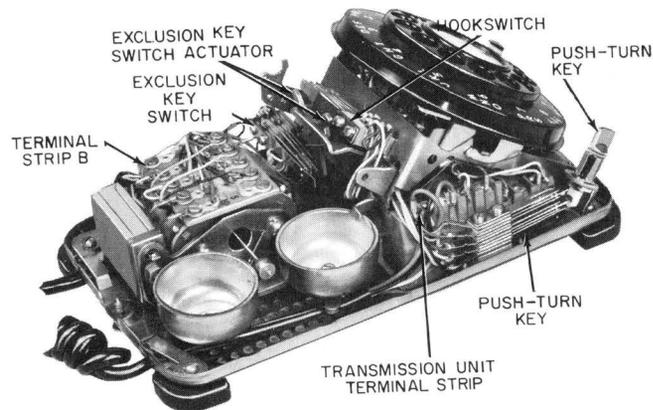
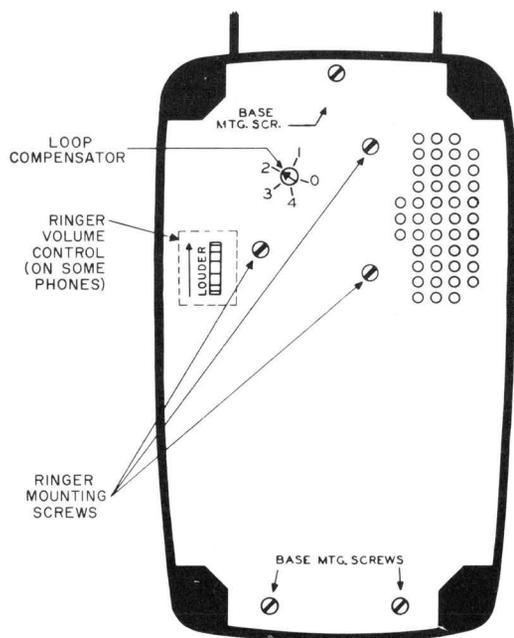
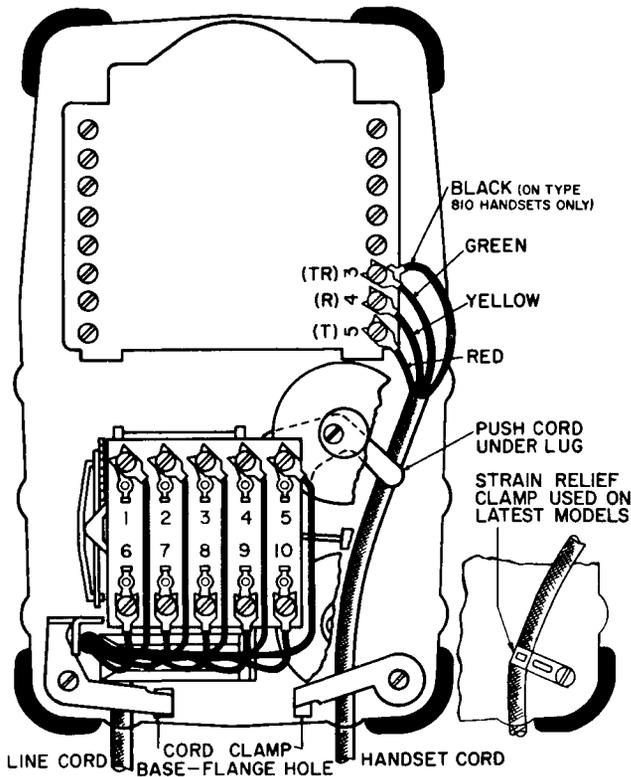

Figure 6. Interior view with hookswitch actuator removed.
Figure 5. Typical baseplate.
Figure 10. Line cord and handset cord connections inside telephone.
of the telephone marked BASE MTG SCREWS (figure 5) and loosen them. Now lift and remove the housing (figure 6). If the telephone is connected to the line, push the hookswitch actuating lever down to its locked position (see paragraph 3.2).
3.4 To remove the ringer, first remove the telephone housing. At terminal strip B (figure 6), disconnect the red ringer wire and black capacitor wire. At the transmission unit disconnect the green ringer wire and the white capacitor wire. At the bottom of the baseplate, remove the 3 ringer-mounting screws (figure 5). Remove the ringer and capacitor. Using the old ringer-mounting screws, fasten the new ringer and capacitor to the baseplate.
To replace the line cord, first remove the telephone housing. Notice whether the line cord connections at terminal strip B are standard for this type of telephone, or whether one of the variations of paragraphs 1.1, 1.2, or 1.3 has been previously installed. Disconnect the 6- or 10-conductor line cord leads from terminal strip B (figure 6). Loosen the cord clamp screw in the corner of the baseplate (figure 10) and unlock the clamp lug from its hole in the baseplate. Withdraw the old cord.
Pass the end of the new cord through the baseplate hole (figure 10), until the covered portion extends just over two inches into the base. Insert the cord clamp lug into its baseplate hole and adjust the cord in the clamping bracket until the covered cord end fits securely between the ringer capacitor and the upright portion of the cord clamp bracket. Tighten the cord clamp screw.
3.8 To replace the handset cord follow the instructions given in paragraph 3.1 for removing the housing. If the telephone is connected to the line, push the hookswitch actuating lever down. Disconnect the green and black wires from transmission unit terminal 3TR, the yellow wire from terminal 4R, and the red wire from terminal 5T. Loosen the strain relief clamp screw (figure 10) and pull out the old cord. The new cord can now be connected. NOTE: Previous Type 85 telephones used a cord clamp (also illustrated in figure 10) for retaining the handset cord.
The "loop compensator" is a rheostat-and-switch accessible from the bottom of the telephone (figure 5). By turning the slotted arrow counterclockwise with a small screwdriver from 0 to 4, the rheostat inserts 0 to 400 ohms in series with the loop.
5.2 To replace the handset cord follow the instructions for removing the telephone housing as stated in paragraph 3.1. Disconnect the handset cord wires from the transmission unit terminals and the handset cord clamp screw (figure 10). Pull out the old cord. The new cord can now be connected.